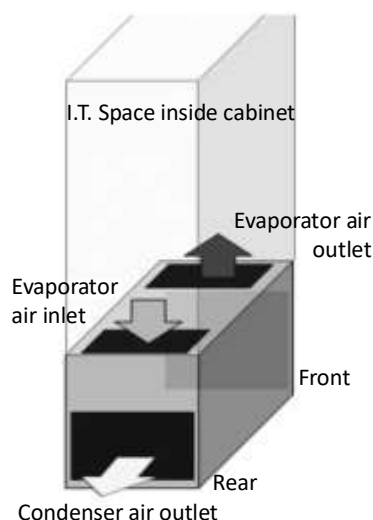

Figure 1-1 VRC unit in cabinet
- The cooling unit is installed at the bottom of the cabinet. The airflow path is depicted in Figure 1-1. The hot return air enters the unit from the rear side of the cabinet and the conditioned cold air is supplied from the front of the unit directly in front of the servers.